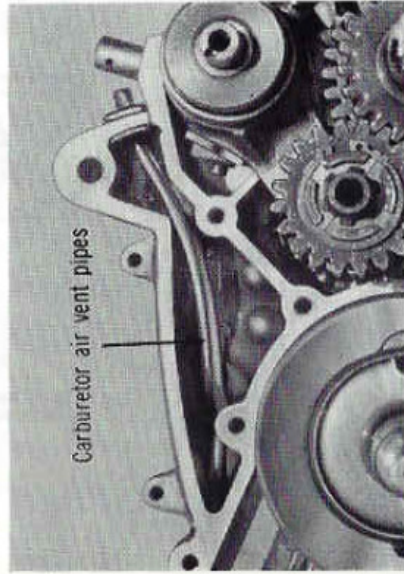

Fig. 8-3-10
3. Before starting to join the crankcase, never fail to install **2 carburetor air vent Pipe** in the crankcase right half, as it is very difficult to install them after the crankcase has been jointed. (Fig. 8-3-10)